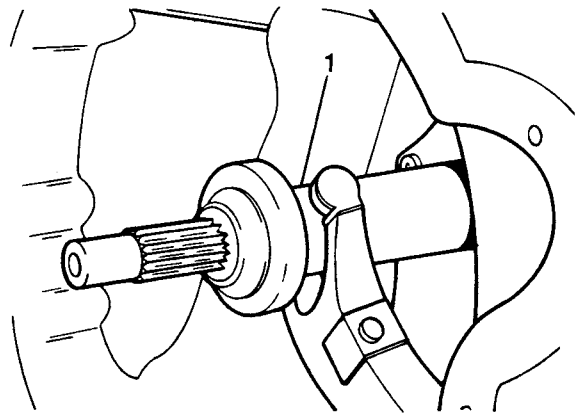

Fig H1.34
- (11) Refer to Fig H1.34. Refit the clutch mechanism to the withdrawal bearing and secure with the plastic clip (1).
- (12) Refit the gearbox to the vehicle (see Sub-sub-section H1.3, Chapter 1) and refill with the correct grade of oil.